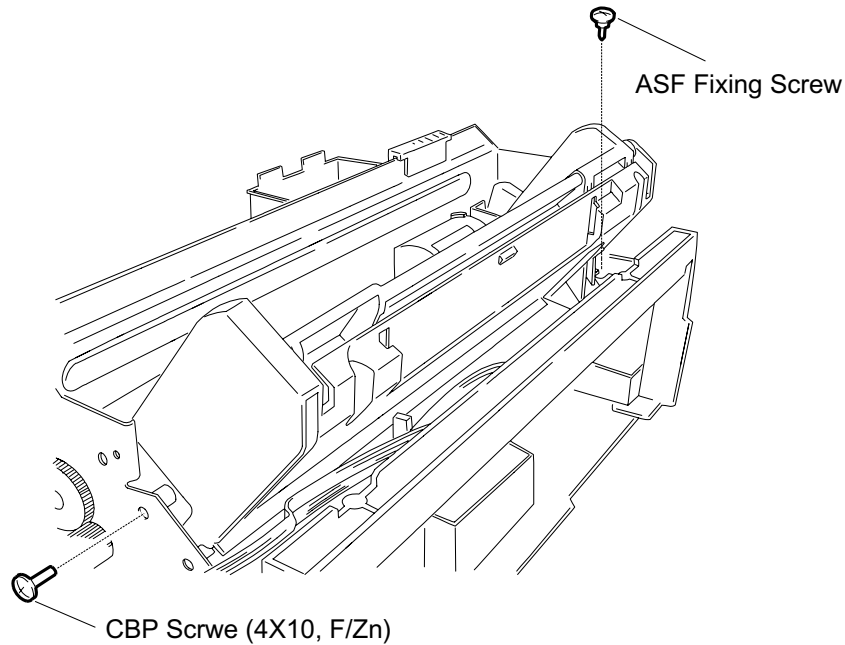

Figure 3-20. Removal of Screws Fixing the ASF
2. Remove 2 screws (CPS, 4x10 and ASF fixing screw, F/Zn) securing the ASF to the right frame and to the rear left of the frame, respectively. (See Figure 3-20.)